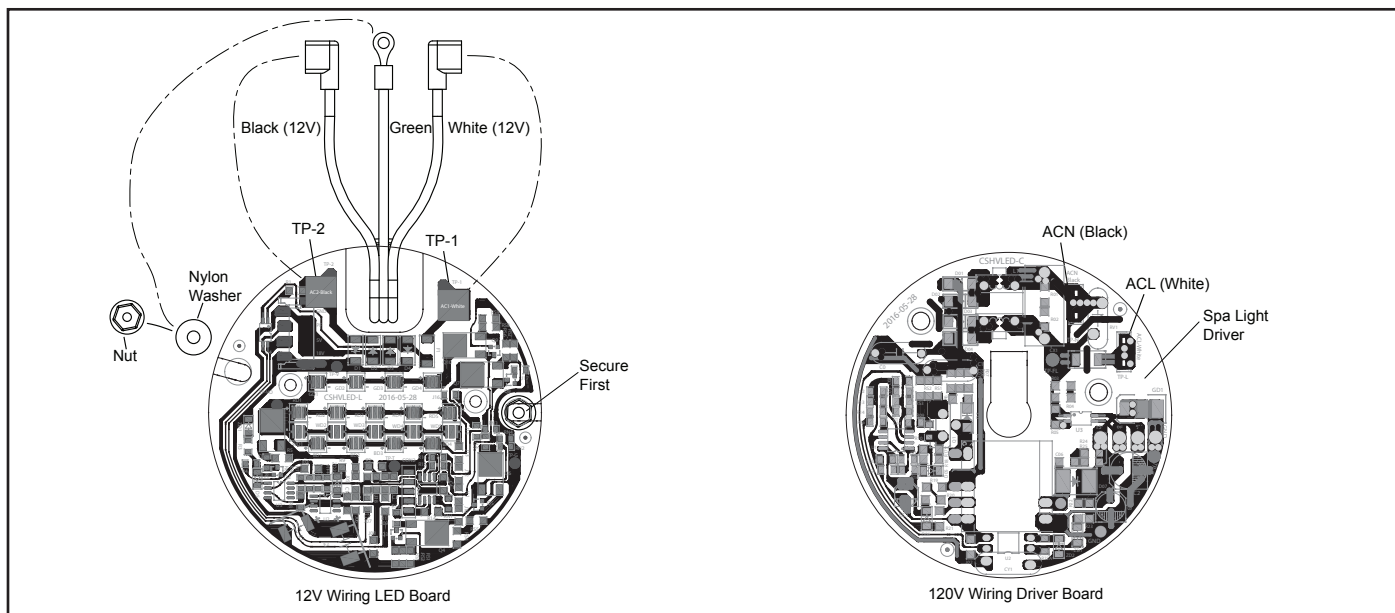

Figure 7. Small Light Engine (PCB) Replacement and Wiring
2. Remove two (2) nuts and two (2) washers.
5. Place new light driver into the fixture with the orientation shown in Figure 7.
6. Secure the light driver with one (1) washer and one (1) nut on the right side of the light driver. Torque to 12 in-lbs.
2. Remove two (2) screws and six (6) washers.
6. Place new LED board into the heat sink with the orientation shown in Figure 7.
7. Secure the LED board with two (2) screws and two (2) washers.
6. Remove driver board and place new light driver board into the fixture with the orientation shown in Figure 7.
12. Place new LED board into the heat sink with the orientation shown in Figure 7.
13. Secure the LED board with two (2) screws and six (6) washers.